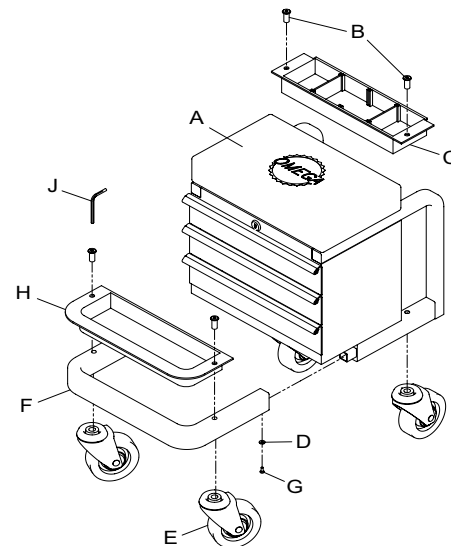

Figure 10 - Assembly
Before beginning assembly of product, make sure all parts are present. Compare parts with package contents list and Figure 10 illustration. If any part is missing or damaged, do not attempt to assemble, install or operate the product. Contact customer service for replacement parts.
ASSEMBLY INSTRUCTIONS (ref. Figure 10)
1. Join frame sections by inserting front frame section (F) into channel sections of tool box subassembly (A). Line up screw holes and thread screws (G) fitted with washers (D) into corresponding holes in channel sections. Do not tighten screws yet.
2. Assemble a caster (E) and a tool tray (C or H) simultaneously. Position a caster stud into lower frame hole as seen in Figure 10. Place tool tray into position by aligning the lower frame thru-hole with corresponding hole in tool tray. Insert caster fastener into the swivel caster stud.
OPERATING INSTRUCTIONS (Refer to Fig. 10)